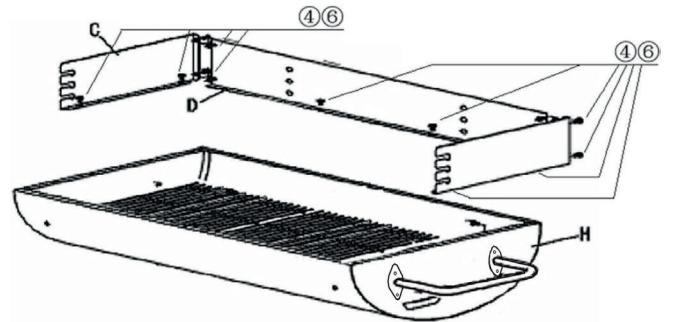

Fig. 4
6. Fix the side (C) and rear (D) windshields to the fire bowl using bolts (4) and nuts (6). **(Fig. 4)**